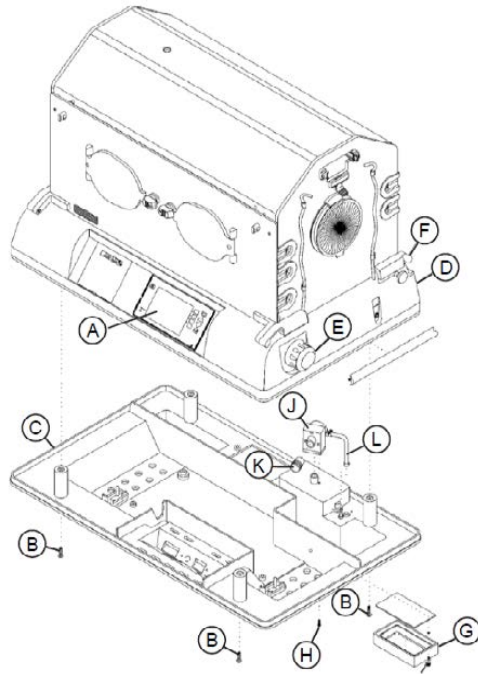

Fig. 60 Upper Shell Assembly
- 23** Remove and retain the four Nylok® screws (Fig. 60/B) that secure the shell bottom (Fig. 60/C) to the upper shell assembly (Fig. 60/D).
- 25** Stand at the same end of the upper shell assembly (Fig. 60/D) as the controller (Fig. 60/A) and perform the following:
- Using the mattress tilt knob (Fig. 60/E) and the rear hood hinge (Fig. 60/F), lift the upper shell assembly (Fig. 60/D) enough to access the corrugated hose (Fig. 60/K) at the fresh air valve (Fig. 60/J).
- Using pliers, disconnect the corrugated hose (Fig. 60/K) from upper shell assembly.
- Carefully remove the upper shell assembly (Fig. 60/D) from the shell bottom (Fig. 60/C) and place it upside down on a flat, padded surface.